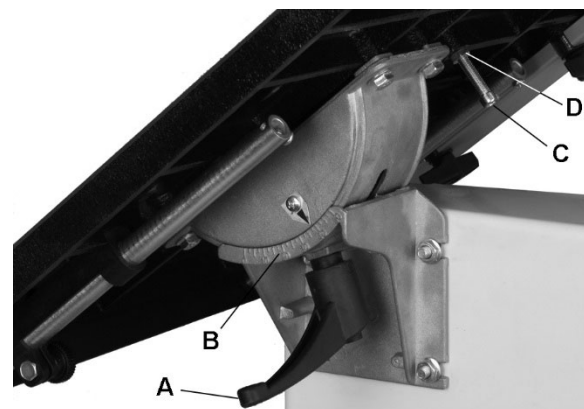

Figure 9
1. Loosen lock handle (shown in Figure 9) and pivot trunnion (A₁) to horizontal position.
2. Loosen lock knob (C₂) and pull extension (C₁) out from the table (C).
NOTE: Lock handle (A, Figure 9) is adjustable – pull down on handle and rotate on pin. Release handle, making sure it settles back onto pin.
Refer to Figures 9 and 10.
The table stop (C, Figure 9) is typically set to stop the table at 90° (perpendicular) with the blade.
2. Loosen lock knob (A, Figure 9); then tilt table down, bringing it to rest against table stop (C, Figure 9).
4. If an adjustment is necessary, tilt table up to access table stop (C, Figure 9).
5. Loosen jam nut (D, Figure 9) and turn table stop in or out to raise or lower the stop. Tighten the jam nut to hold table stop in place.
For left tilt down to 5°, the table stop (C, Figure 9) must be adjusted further.